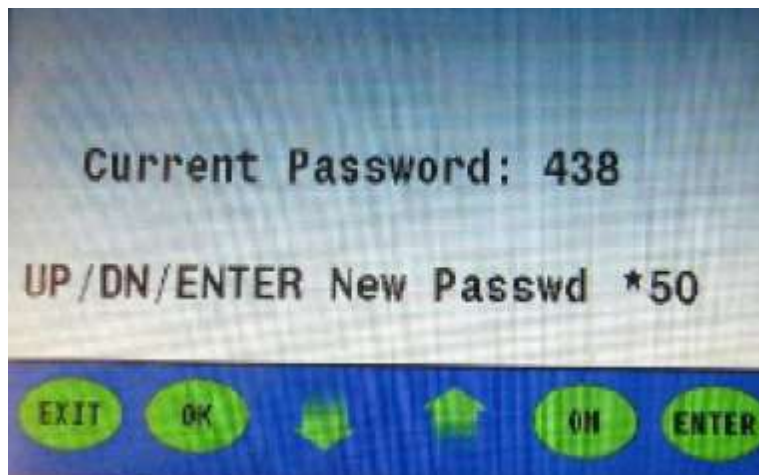

Figure 16
8. Press the **enter button** a (*) is inputted into the field for the first digit the second number will begin to blink (**figure 16**). Next, press the **up arrow** to assign the second number.